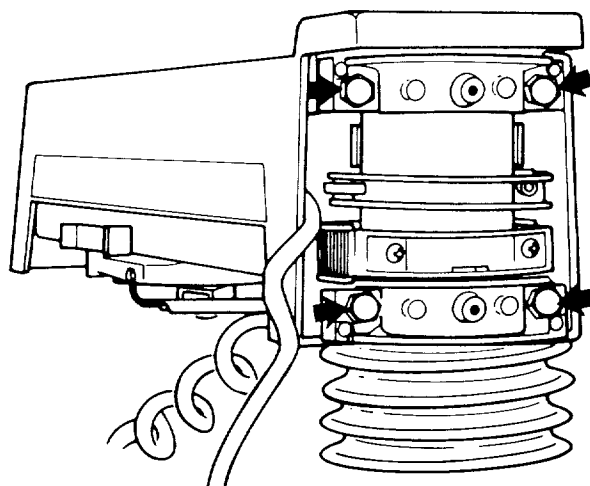

Fig. 146 - Location of Hex Head Tapping Screws
2. With a 9/16 inch wrench or socket tighten evenly the top two 3/8-16 hex head tapping screws. The bottom two screws should also be tightened evenly but not as tight as the top screws. (Figure 146)